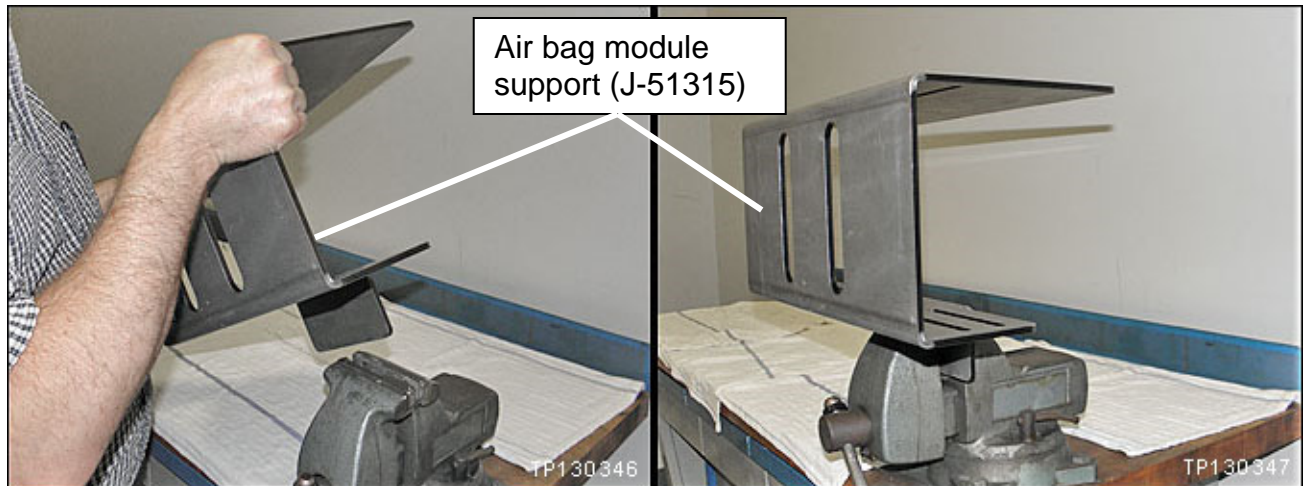

Figure 1
5. Securely mount the air bag module support (support) in a vice (see Figure 1).